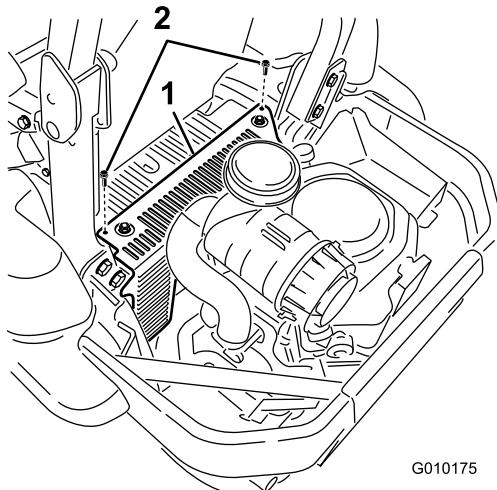

Figure 2
1. Remove the hydraulic unit shroud from the machine (Figure 2). Save hardware and shroud.